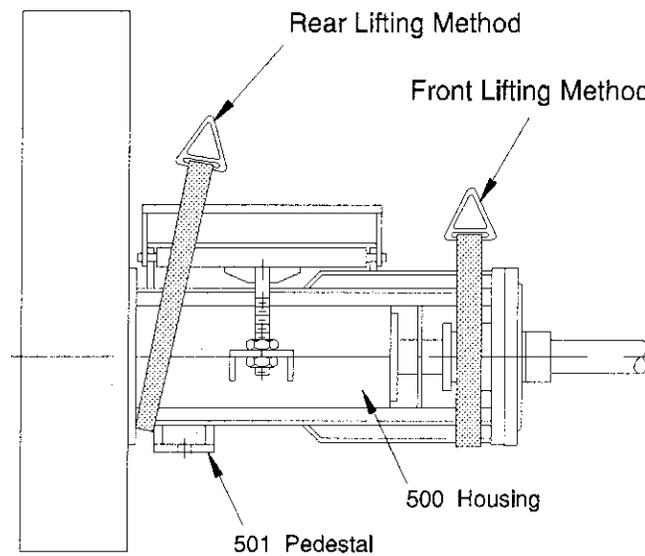

Figure 2: Lifting Lug Location
CAUTION: Do not lift the agitator from any other point except with the use of a lifting strap (or equivalent) around the bottom of the housing on the drive end, and another through the housing ribs at the flange end, Figure 2.
4. Lift the agitator with a portable hoist or equivalent, using the designed lifting points shown in *Figure 2*, page 7. Ensure that the holes in the agitator base drop over the anchor studs in the support base. Do not rest the base on the support until the agitator is fastened to the tank nozzle or wall insert.